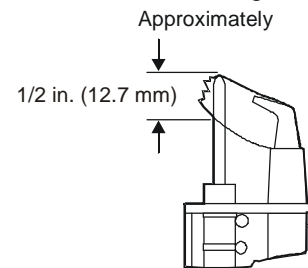

Figure 2: Flame Position
- A flame approximately 0.5 in. (12.7 mm) high must surround the thermocouple tip (see Figure 2).